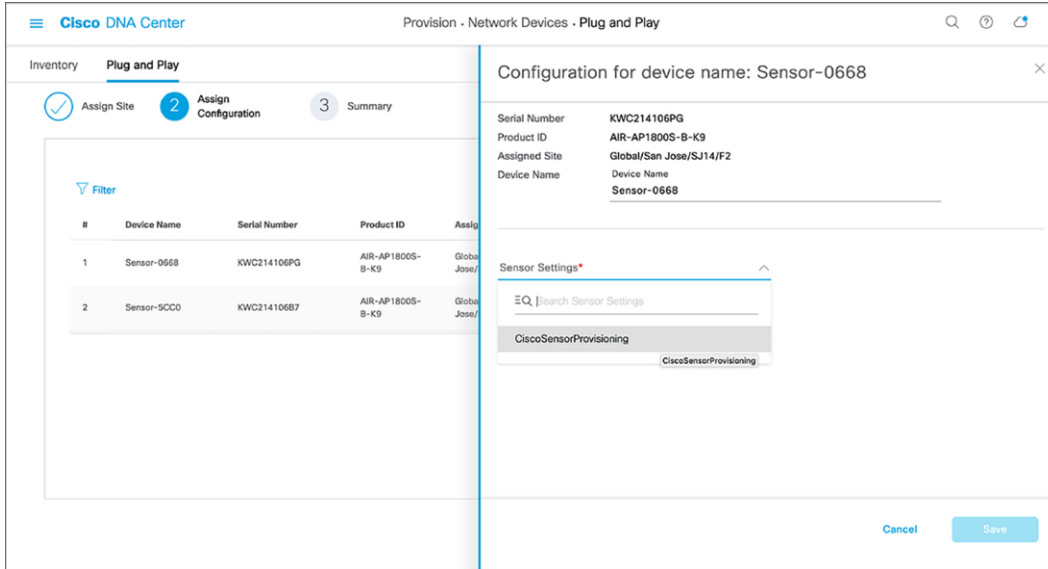

Figure 53.
- Wireless backhaul: If you didn't create a sensor PnP profile, you can use the default CiscoSensorProvisioning sensor profile, which is automatically selected (**Figure 53**).
Wired backhaul: If you are deploying a wired sensor, you must still choose one profile, in which case the default profile is a convenient option (**Figure 53**).